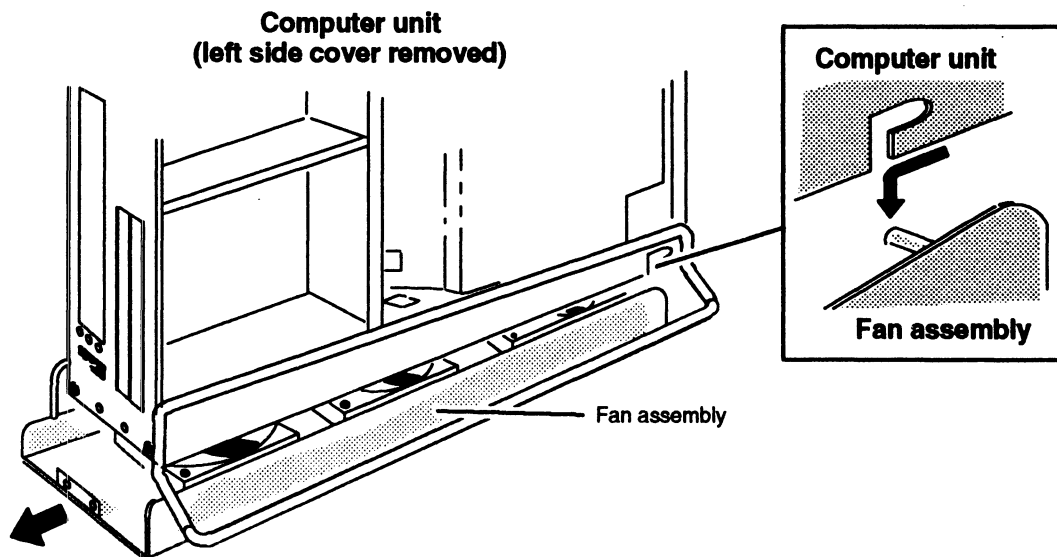

Figure 10-3 Removing the Fan Assembly from the Computer Unit
3. Still supporting the bottom, pull the fan assembly out and down to disengage it from the computer unit as shown in Figure 10-3.